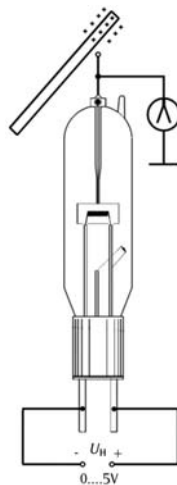

Fig. 1a Circuit set-up for demonstrating the Edison effect using an electroscopes
- Connect the circuit as shown in Fig. 1a/b.